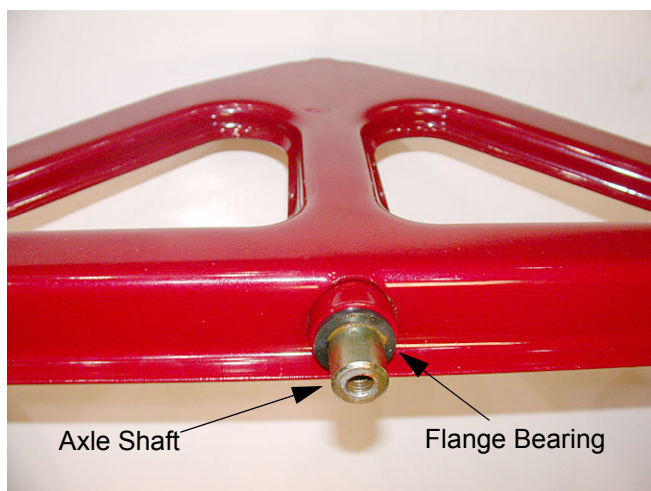

Figure 11.11
- 11.11. Inspect the flange bearing on each side of the pivot axle for wear. Replace as needed. See Figure 11.11.